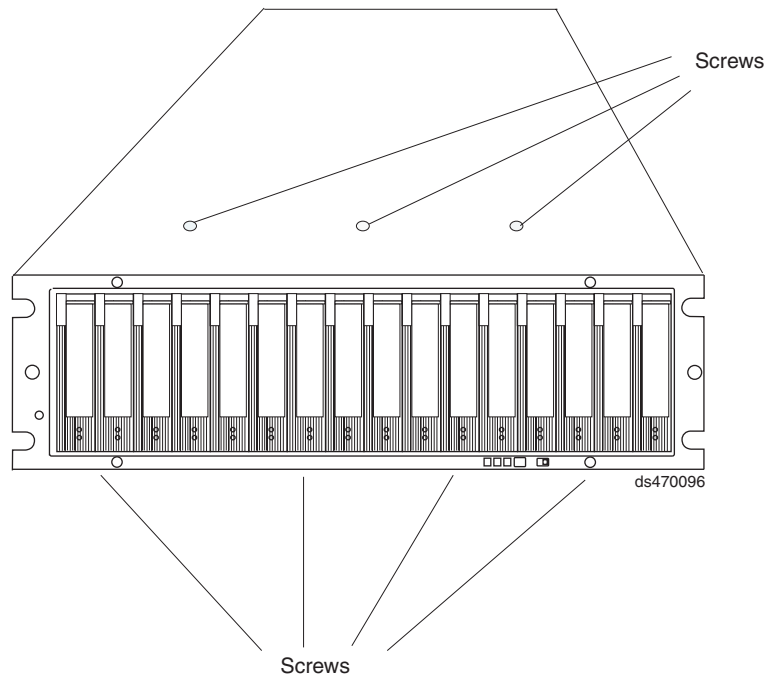

Figure 119. Screws holding the top and bottom sides of the chassis to the cage frame
13. Pull the chassis outward from the front of the rack and remove from the rack. Place it on a level surface. Look for a row of three Phillips screws on top of the chassis and a row of four Phillips screws on the bottom of the chassis, as shown in Figure 119 on page 181. Remove the seven Phillips screws using the #1 Phillips screwdriver. Save these screws.
18. Install the seven Phillips screws (three on top and four on bottom) that hold the front cage frame to the EXP810 chassis that you removed in step 13 on page 180, as shown in Figure 119.